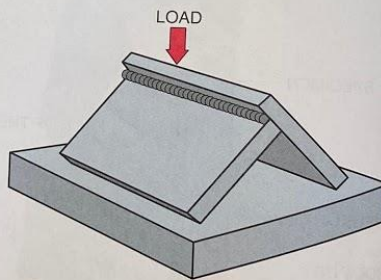

Figure 31 Fillet weld break test.
- In a fillet weld break test, a fillet weld is made on one side of a T-joint. Stress is then applied to the T-joint until the weld fractures (Figure 31). The weld is then examined for defects and fusion. This is not a weld strength test; it is intended to break the weld so that it can be examined for discontinuities.